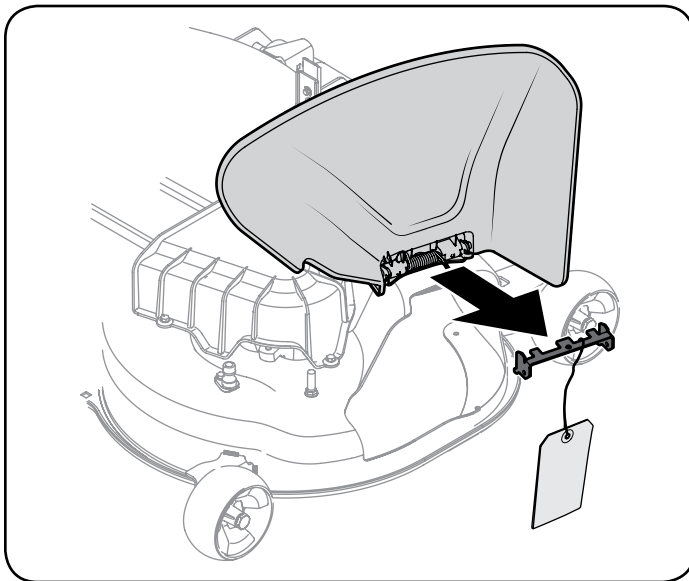

Figure 7
7. Holding the chute deflector fully upward, remove the shipping brace. Lower the chute deflector and discard the shipping brace. See Figure 7.